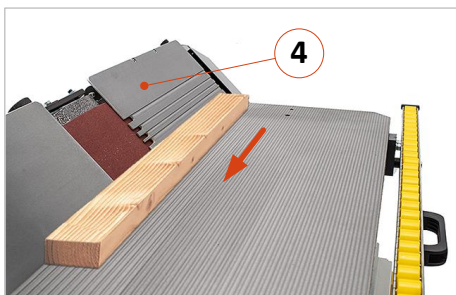

Figure 42: Sanding chamfers on sanding pad
- **Important:** First adjust a sanding depth for the chamfer on the infeed ruler (4) of the veneer fence. The detailed procedure can be found in the section ⇒ 11.5.4.
- Hold the workpiece firmly with both hands. Starting from the side of the infeed ruler, push it forward along the two veneer fences in the direction of the arrow (⇒ Figure 42).